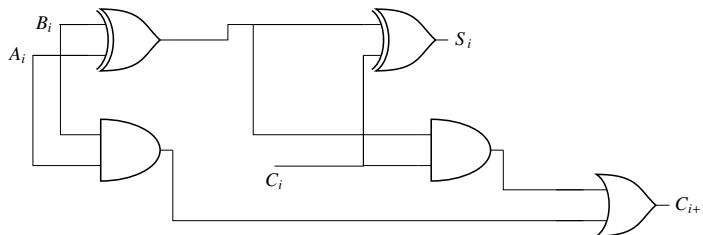

Fig. 3.13: Full Adder
27. Fig. 3.13 shows the i th full-adder block of a binary adder circuit. C_i is the input carry and C_{i+1} is the output carry of the circuit. If the inputs A_i, B_i ; are available and stable throughout the carry propagation, find the outputs S_i and C_{i+1} .